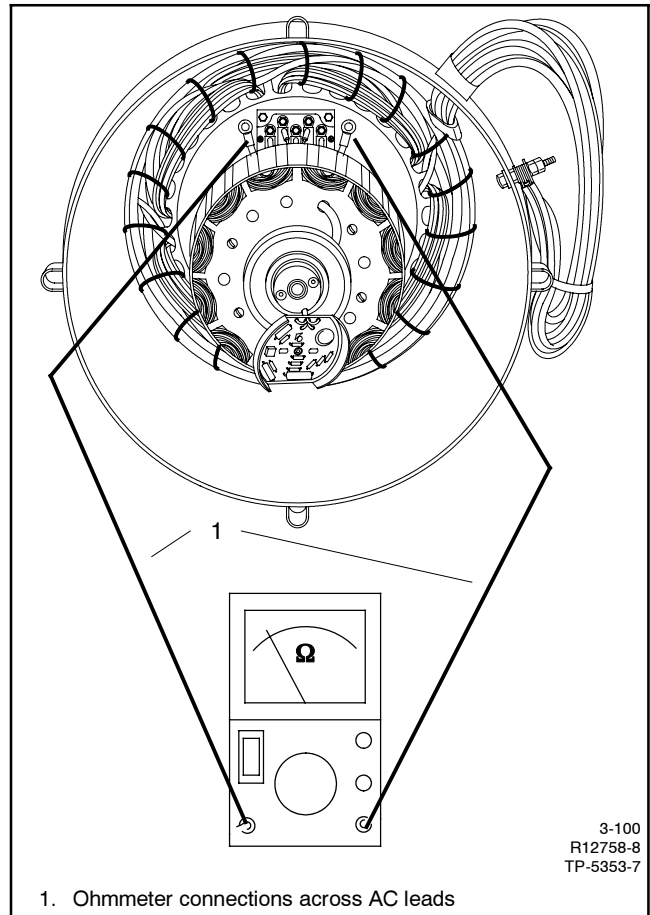

Figure 3-17 Exciter Armature Continuity Check
4. With an ohmmeter, check for continuity across the AC leads. See Figure 3-17.
6. Visually check the exciter armature for shorted winding(s) and with an ohmmeter, check for low resistance readings. See Section 1.4, Specifications, Electrical Values. See Figure 3-17. Low resistance readings indicate a faulty exciter armature requiring replacement of the rotor assembly.